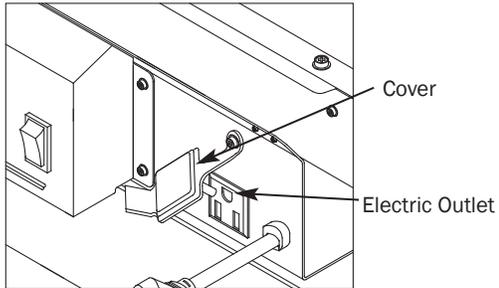

Figure 11 - Extra Electric Outlet
- Always cover electrical outlet when not in use. See Figure 11.